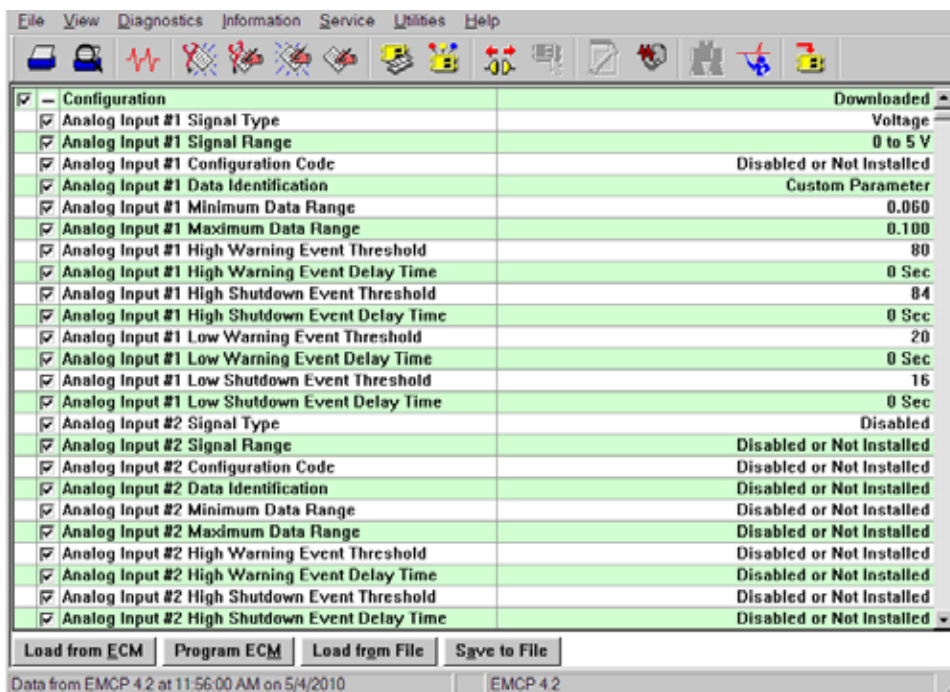

Figure 15.6 – ECM Replacement File Parameters
5. The replacement file parameters will be shown. See Figure 15.6.